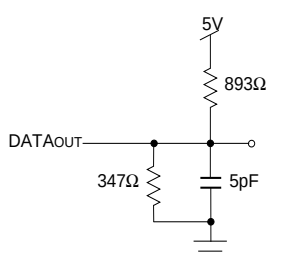

Figure 2. Output Test Load
1. Transition is measured $\pm 200\text{mV}$ from Low or High-impedance voltage with the Output Test Load (Figure 2).
1. Transition is measured +/-200mV from Low or High-impedance voltage with the Output Test Load (Figure 2).
3. Transition is measured $\pm 200mV$ from Low or High-impedance voltage with the Output Test Load (Figure 2).